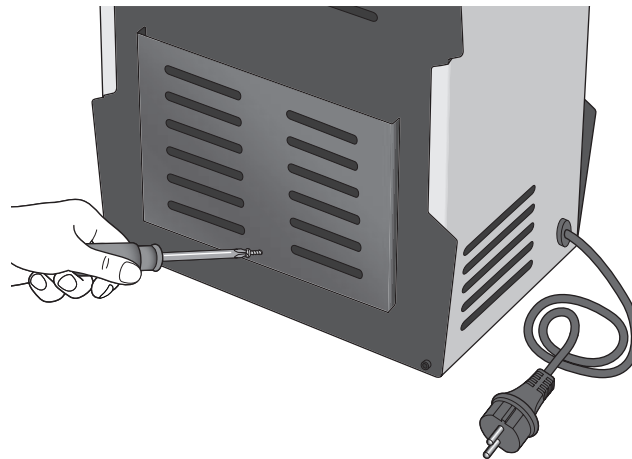

Fig. 10: Unlocking the cleaning flap
3. Use a suitable screwdriver to loosen the fixing screw (fig. 10) at the rear of the appliance.
9. Tighten the fixing screw (fig. 10).
- Ensure that the cleaning flap is properly closed and securely locked with its fixing screw immediately after cleaning (fig. 10).